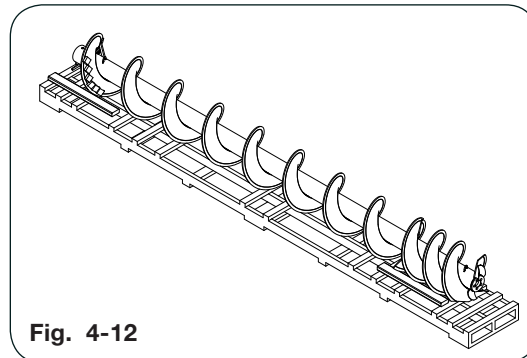

Fig. 4-12
1. The replacement auger is factory balanced. Remove entire auger from shipping crate and secure from rolling. The lower auger assembly is pictured in Fig. 4-12 for reference.